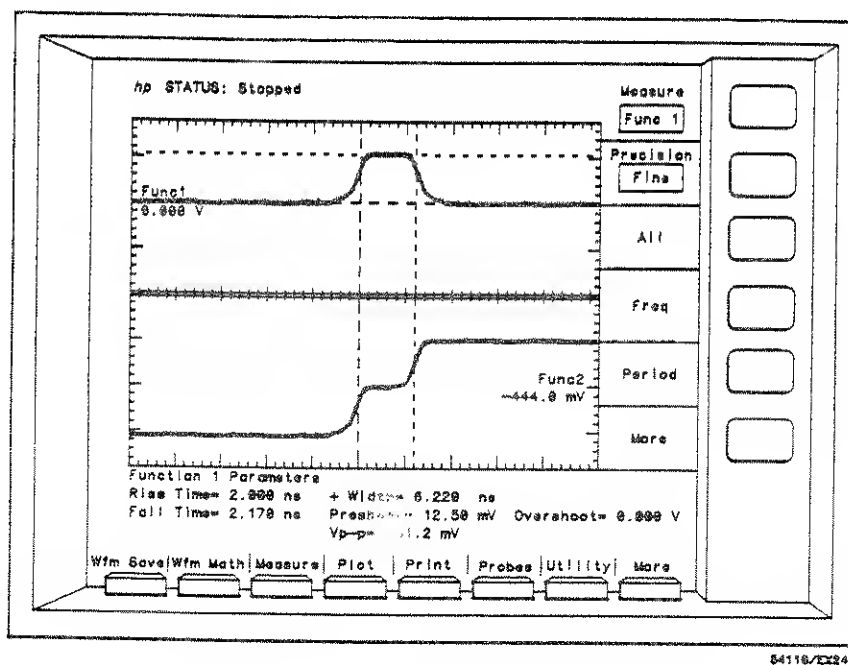

Figure 7-29. Automated Measurements on Func 1.
8. Return to the measure menu and measure "All" parameters on func 1 (see figure 7-29).